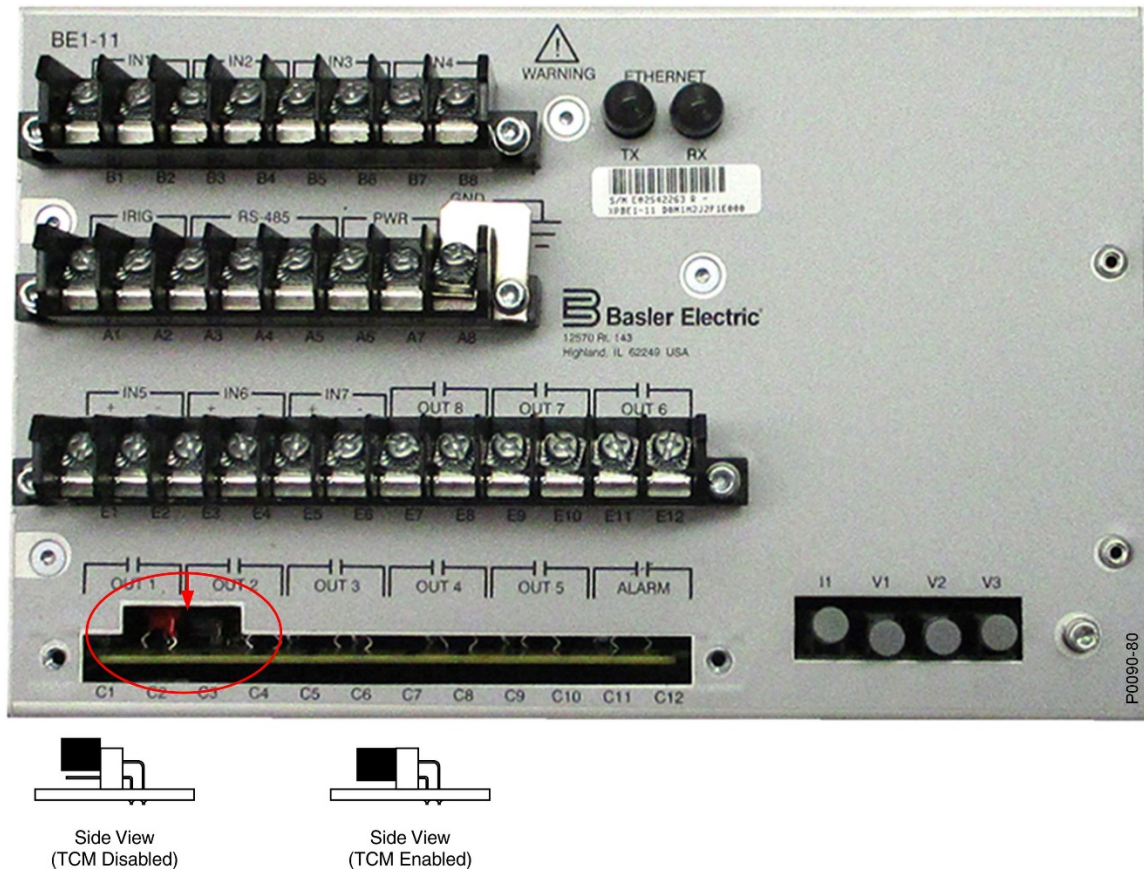

Figure 28-4. Trip Circuit Monitor Enable/Disable Jumper Location
2. Locate the jumper terminal block that is mounted on the left side of the circuit board. The terminal block has four pins. With the jumper as installed at the factory, the jumper should be connected across pins 1 and 2 (left side) when viewed from the back of the unit. This jumper configuration enables the trip circuit monitor. Figure 28-4 illustrates the location of the jumper terminal block as well as the position of the jumper connected.